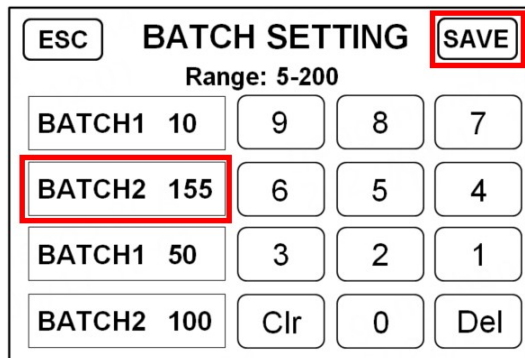

Figure 30
6) Enter "155" directly on the number key on the right side of the display screen, and the value of "BAT^{CH}2" will also become 155, as shown in Figure 30 below. Please touch the "SAVE" key in the upper right corner to save the data.